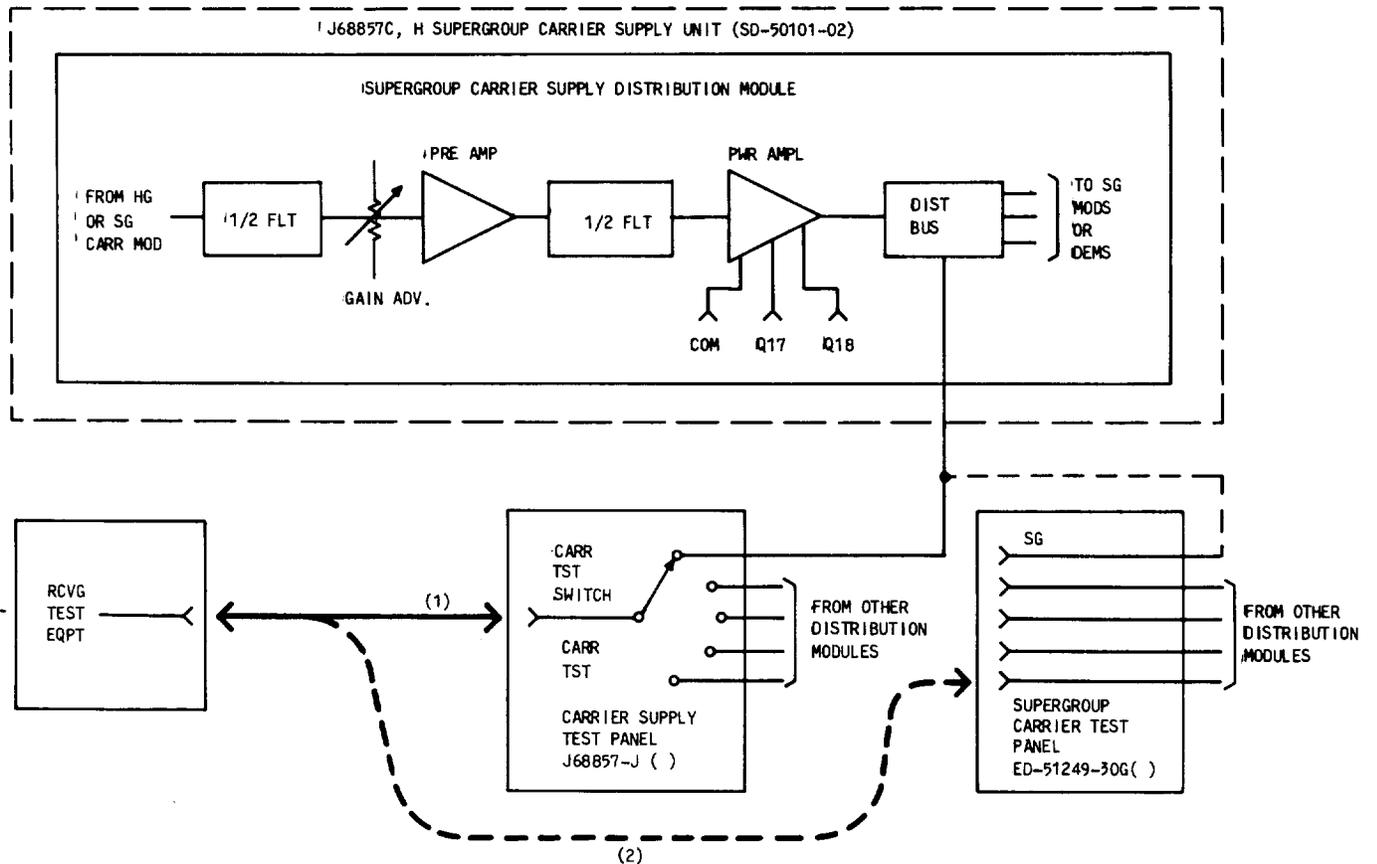

Fig. 2—Supergroup Carrier Supply—Measurement of Output Power at the Carrier Supply Test Panel
This section is reissued to revise information in Charts 1 and 2 and Fig. 2, 5, 6, and 7, for testing supergroups 25 through 28 in L600 terminals converted to U600 and for the testing of newer L1860A equipments. Change arrows indicate major changes or additions. **Equipment Test Lists are not affected.**
3	Determine the type carrier test panel used in the equipment and refer to Fig. 2.
4	(a) If the equipment uses a J68857-J() carrier test panel, rotate the CARR TST switch to the supergroup frequency being tested. Connect the RTE to the CARR TST jack [patch (1), Fig. 2], and proceed to Step 5.
4	(b) If the equipment uses an ED-51249-30G() supergroup carrier test panel, connect the RTE to the appropriate supergroup (SG) jack on the test [patch (2), Fig. 2] for the frequency being tested.
- 12 (a) Remove patch (1), Fig. 2 and set the CARR TST switch to the OFF position, or,
(b) Remove patch (2), Fig. 2.